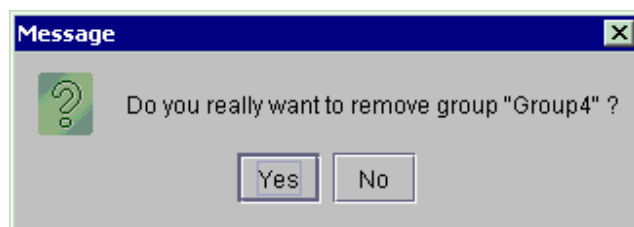

Figure 11 : message of the user group destruction
- ◆ Click on the button **Remove**, the following window appears on the screen (Figure 11) :